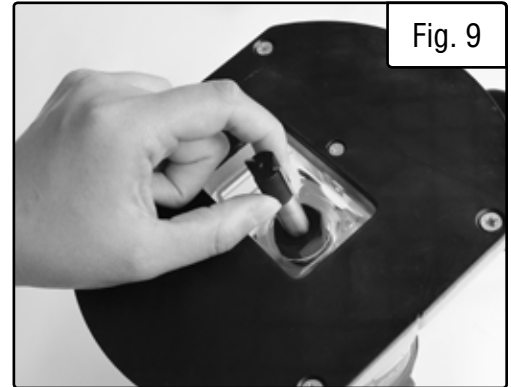

Fig. 9
2. Adjust the depth stop pole to be completely in the down position so that the fine tuning knob does not extend past the top of the router housing. Place the router upside down on a flat surface. (Fig. 9).